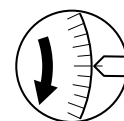
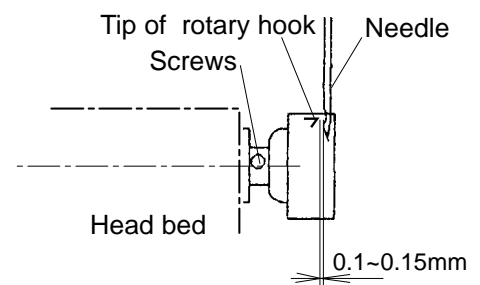

Fig. 8
Fig. 9
- Turn main shaft slightly in direction shown by the arrow mark. Then set the angle of adjustment disc as shown in Fig. 8. Note the space or timing between needle and tip of rotary hook as shown Fig. 9, 10. If the space is too open or too close, loosen 3 screws of shuttle to adjust. Make sure to tighten 3 screws after adjusted the space. (The timing is set exactly at the factory. However, in some cases timing is inadvertently thrown off from handling during shipment.)